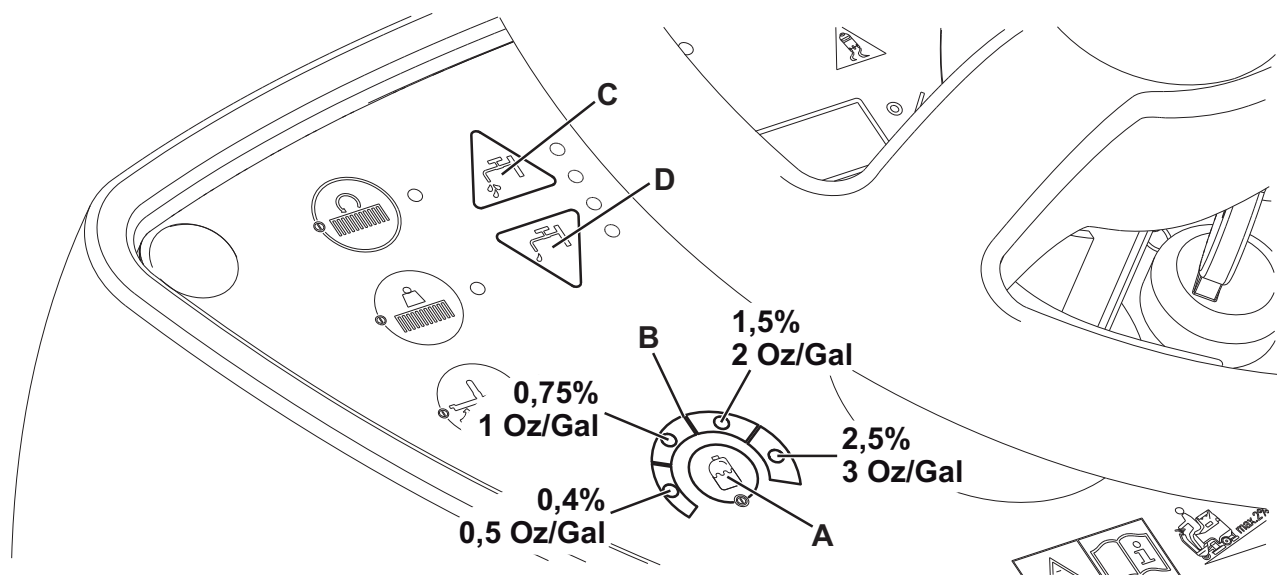

Figure 5
The system used to mix the detergent with the washing water can be activated by pressing the detergent flow control switch (A, Fig. 5): when one of the LEDs is on, the detergent is added to the washing water.
1. The average detergent concentration varies according to the illuminated sector (B), as shown in figure 5.
2. Press the switch (A) to change the detergent concentration to reach the desired setting, or to reset (all LEDs off).